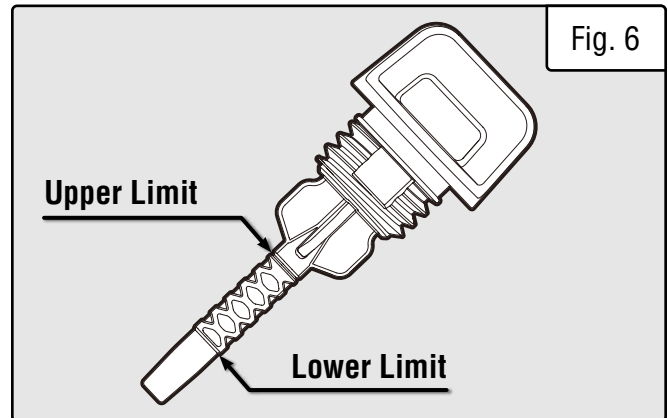

Fig. 6
4. If the oil mark covers **less than one half** of the dipstick, slowly **add oil** until the oil mark reaches the top of the dipstick (or when you can see the oil coming halfway up the oil fill threads). See Fig. 6.